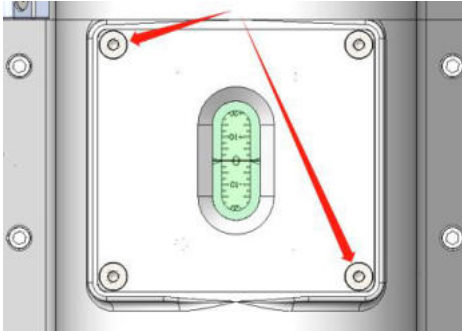

Figure 3.8
1. Remove the four M3x8 hexagon socket countersunk head screws for the collimation observation window cover as shown in Figure 3.8 and remove it.